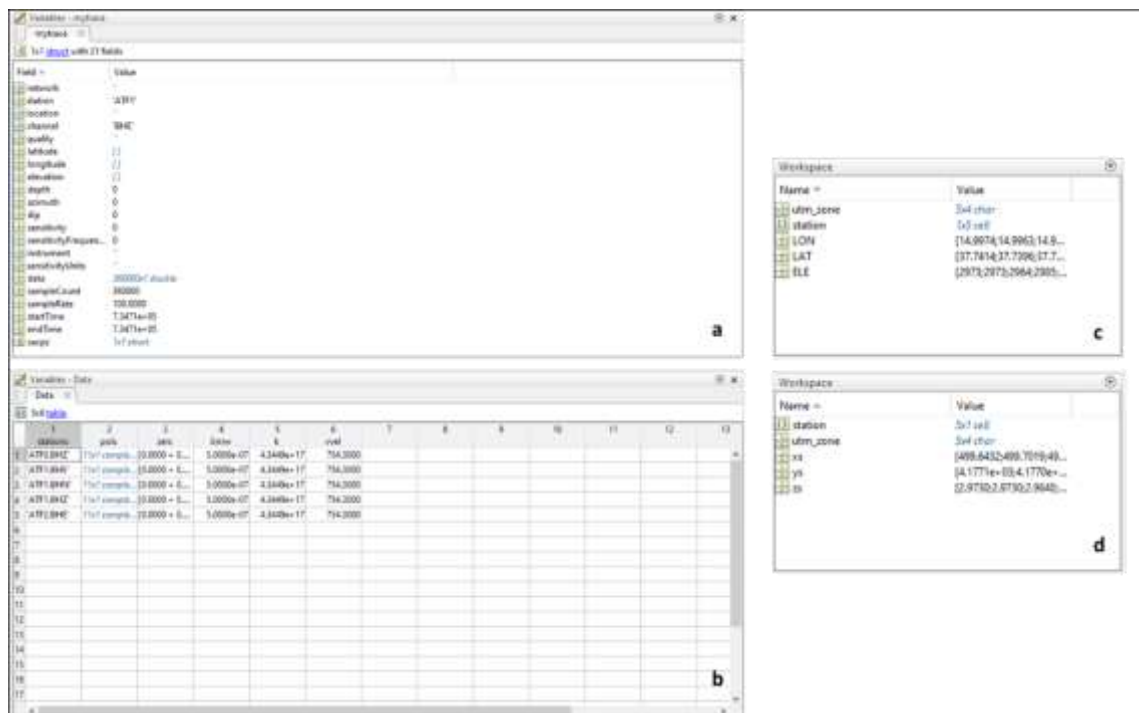

Fig. 2. Examples of the main data structures of MISARA.
Before running the MISARA modules, it is necessary to prepare specific data structures in order to ensure the proper functioning of the software. Generally, MISARA works with seismo-acoustic traces expressed in a specific Matlab format (structure arrays) and with specific file and folder names. In particular, these files contain all the information about the trace (e.g., station name, station coordinates, amplitude of the signal etc...) and are formatted on the basis of the structure showed in the figure 2.a. Each of these files must be also written using the following path form: `/jld/SSSS.CCC.yyyy.jld.hhmmss.mat`, where SSSS, CCC, yyyy, jld, hh, mm, ss represent the station name, the channel/component, the year, the Julian day, the hours, the minutes and the seconds of reference, respectively. In addition, MISARA modules work through some Matlab files/structures linked to the station coordinates (Fig. 2.c and Fig. 2.d) and the parameters for the instrument response correction (Fig 2.b).
- Set the geographic coordinates of the reference station on the basis of the World Geodetic System 1984 (WGS84). During the processing, the module also converts the coordinates into Universal Transverse Mercator coordinates (UTM) and it automatically saves the parameters (Fig. 2.c and Fig. 2.d) as “/coordinate/coordinate_deg.mat” (WGS84) and “/coordinate/coordinate_m.mat” (UTM) in the selected Output folder. Notice that if you don’t type in these text-boxes, then the software returns vectors of “Not a Number” values (NaN).
- Set the parameters for the Instrument Response correction. During the processing, the module automatically saves the parameters (Fig. 2.b) as “/Instrument response/correction_parameters.mat” in the selected Output folder. Notice that if you don’t type in these text-boxes, then the software returns vectors of “Not a Number” values (NaN).